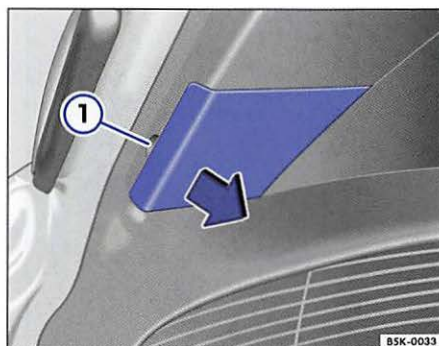

Fig. 195 In the rear hatch: Removing cover.
3. With the flat blade of the screwdriver from the vehicle tool kit (⇒ page 326) carefully pry off the cover at the slot ⇒ fig. 195 ①.